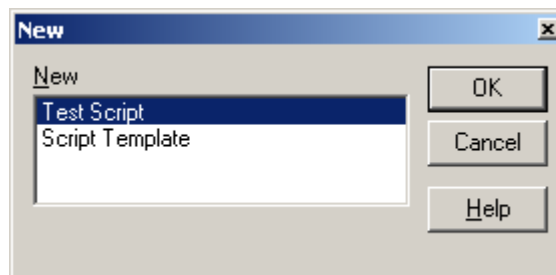

Figure 2-3: New Script dialog box
4. The New script dialog box, as shown in Figure 2-3, is displayed. Select Test Script.